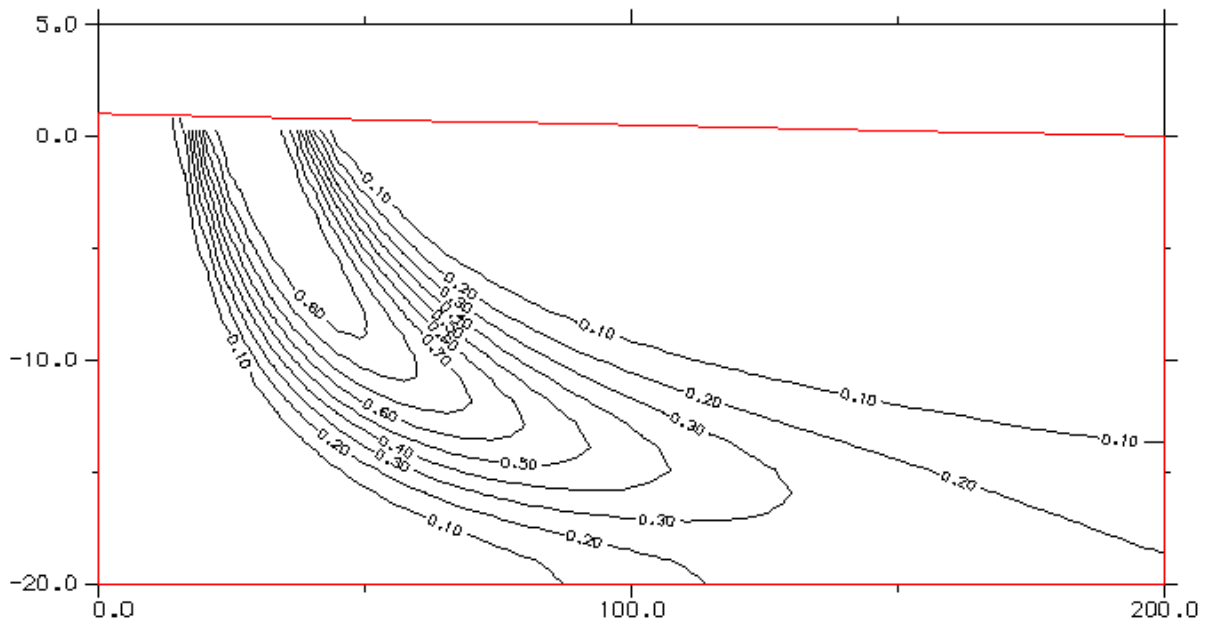

Figure 2. 2D orthogonal X-Z section, concentration contour plot produced from Step-by-step Application 1.
11. In the **Properties** menu select **Contour Level**. In the newly displayed **Contour Level Properties** dialog, enter 1.0, 0.1, and 0.1 in the **Upper Level**, **Lower Level**, and **Contour Interval** value boxes, respectively. Click **Apply** and the plot is redrawn with the new contour levels. The plot in the graphics window should be similar to Figure 2.
13. The contours are redrawn. Because a new 2D slice was selected, the axis scaling is reset to the defaults. Open the **Coordinate-axis scaling** dialog and set the vertical scaling factor to 5. Click **Apply**. The new contours are identical to those in Figure 2. Note that the axis labeling has changed. The coordinates for all oblique planes are translated and recomputed to that the origin (0,0) is at the lower left corner of the plot.